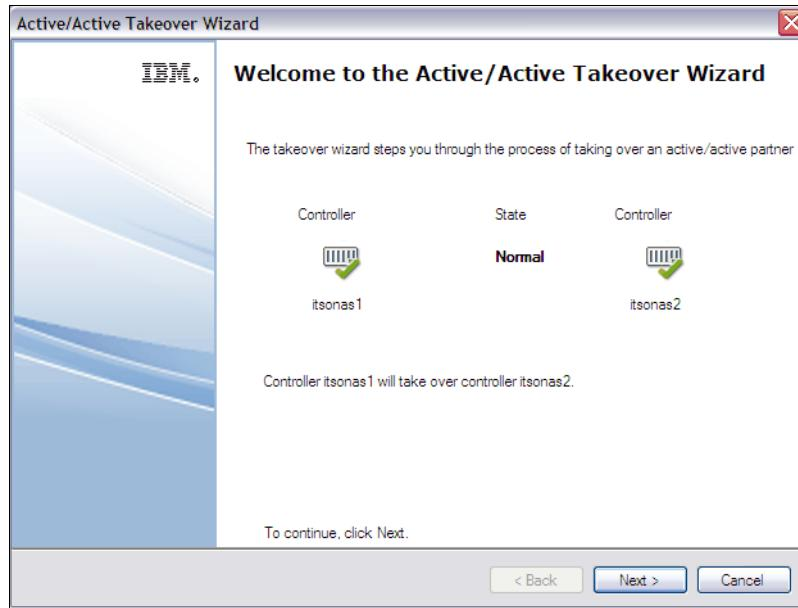

Figure 7-7 System Manager initiating takeover step 1
2. Figure 7-7 shows the Active/Active takeover wizard step 1. Click **Next** to continue.